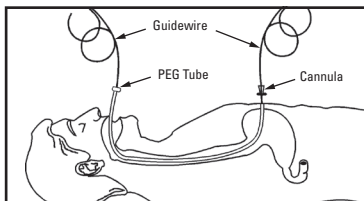

Figure 11
- Firm tension is required at both ends of the guidewire to allow for passage of the PEG tube into the oropharynx and into the stomach (Figure 11).